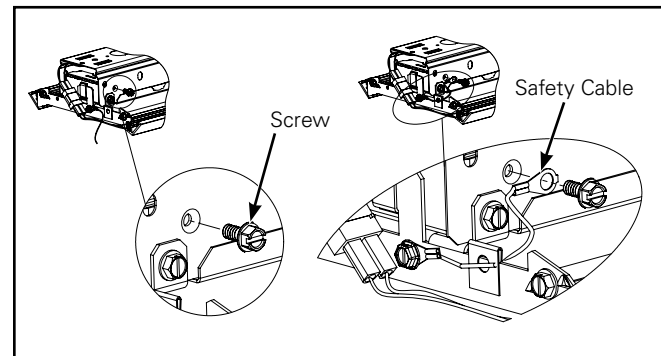

Figure 27.
9. To install safety cable remove screw from channel assembly and reattach safety cable with the same screw. (Figure 27.)